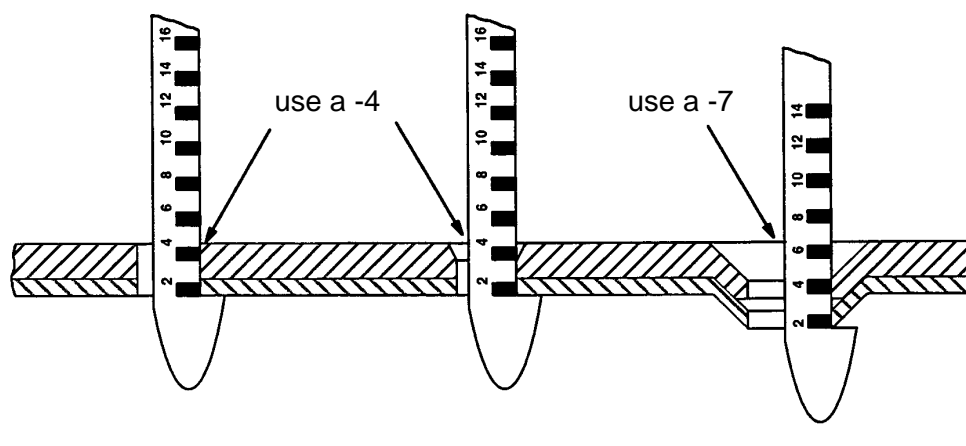

Figure 5 - Use of Grip Scale
- 5.4.1 The fastener grip length specified on the engineering drawing, work order or assembly manual is only a reference length. To verify that the grip length specified is correct, measure the material thickness by inserting a grip scale into the prepared hole and reading the number on the GROUP I side of the scale. The numbers shown on the grip scale coincide with the lockbolt dash number. Ensure that the sheets are pulled up tight so that there is no gap between the sheets. Always read to the next higher number as shown in Figure 5 (i.e., if the reading is past the **end** of the -3 marking, then use of a -4 fastener is indicated). If a tapered sheet condition exists, use the grip length indicated for the thickest section.